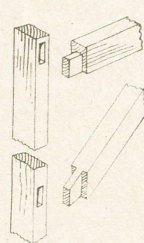

Fig. 6—Mortise joints
Fig. 6 is, perhaps, the stronger, but at the same time is more difficult to mark out and to cut. Glue should be used to secure the joints, with screws put in where possible. The outer ends of the rails (C) and (D) should be cut round with the fretsaw and made smooth with coarse and fine glasspaper.